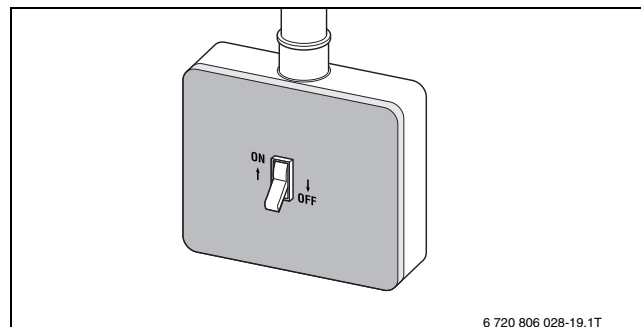

Fig. 8 ON/OFF switch (OFF position)
- ▶ Place the ON/OFF switch in the **OFF** position (→ Fig. 8). This shuts off power to the boiler and all of its components (e. g. burner, temperature controller).